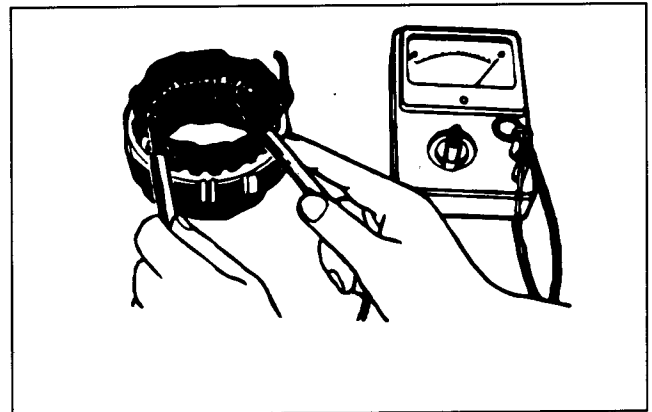

Figure 52
12. Check for continuity between lead wires of the stator coil (Fig. 52). Replace the stator coil if there is no continuity.